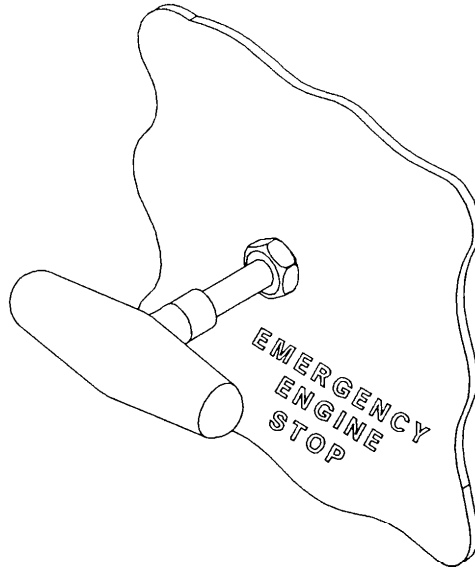

Figure 19. Location of Air Shut-Off Handle
- (WEEKLY) 39. () Instruct a helper to place a finger on the exhaust (vent) port of the exhaust conditioner Low water shutdown valve. Start the engine, operate it at high idle, and engage the emergency intake air shut-off valve. The valve handle is shown in Figure 19. The air shut-off valve closes immediately and shuts down the engine.